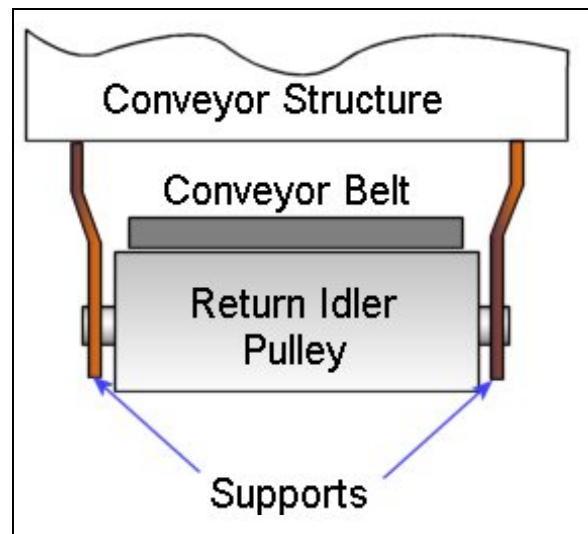

Figure 17. Return Idler
**Return Idlers** are positioned below the conveyor system structure and provide a surface for carrying the conveyor belt in the opposite direction of the carrying side of travel (Figure 17).